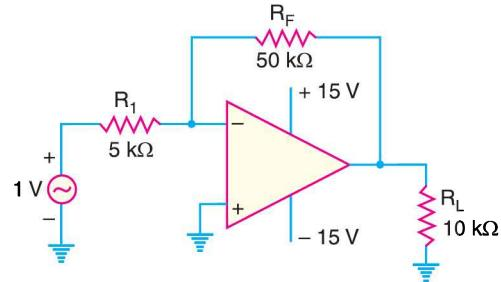

Fig. 25.101
7. For the circuit shown in Fig. 25.101, find (i) closed-loop voltage gain (ii) the instantaneous voltage across R_F when the signal voltage is +1V (iii) the instantaneous voltage on the -terminal when the signal voltage is +1V.